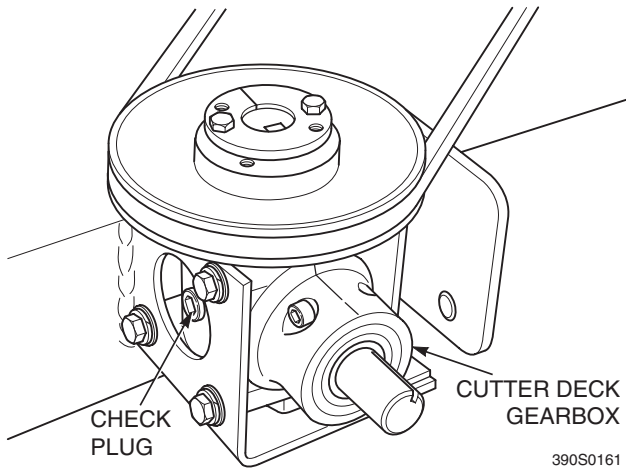

Figure 7-10. Cutter Deck Gearbox
2. Clean and remove the check plug from the side of the gearbox. See Figure 7-10.